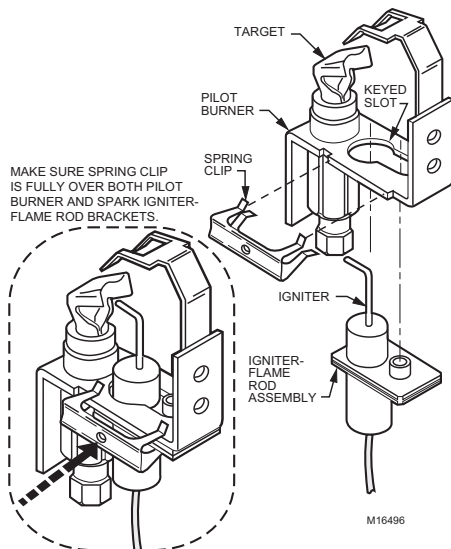

Fig. 1. Replacing the original spark igniter-flame rod assembly with the Q3305 Igniter-Flame Rod Assembly.
The Q3305 Spark Igniter-Flame Rod assembly replaces the original spark igniter-flame rod assembly in the Q3451 Pilot Burner Igniter-Sensor used with the S8600 Intermittent Pilot Ignition Systems. The assembly can be replaced without removing the pilot burner. See Fig. 1.
2. Hold the bottom of the assembly with one hand; with the other hand, remove the spring clip by pulling it away from the pilot burner. See Fig. 1.
1. Insert the assembly into the pilot burner until it is flush with pilot burner bracket. Secure with new spring clip provided. See Fig. 1.